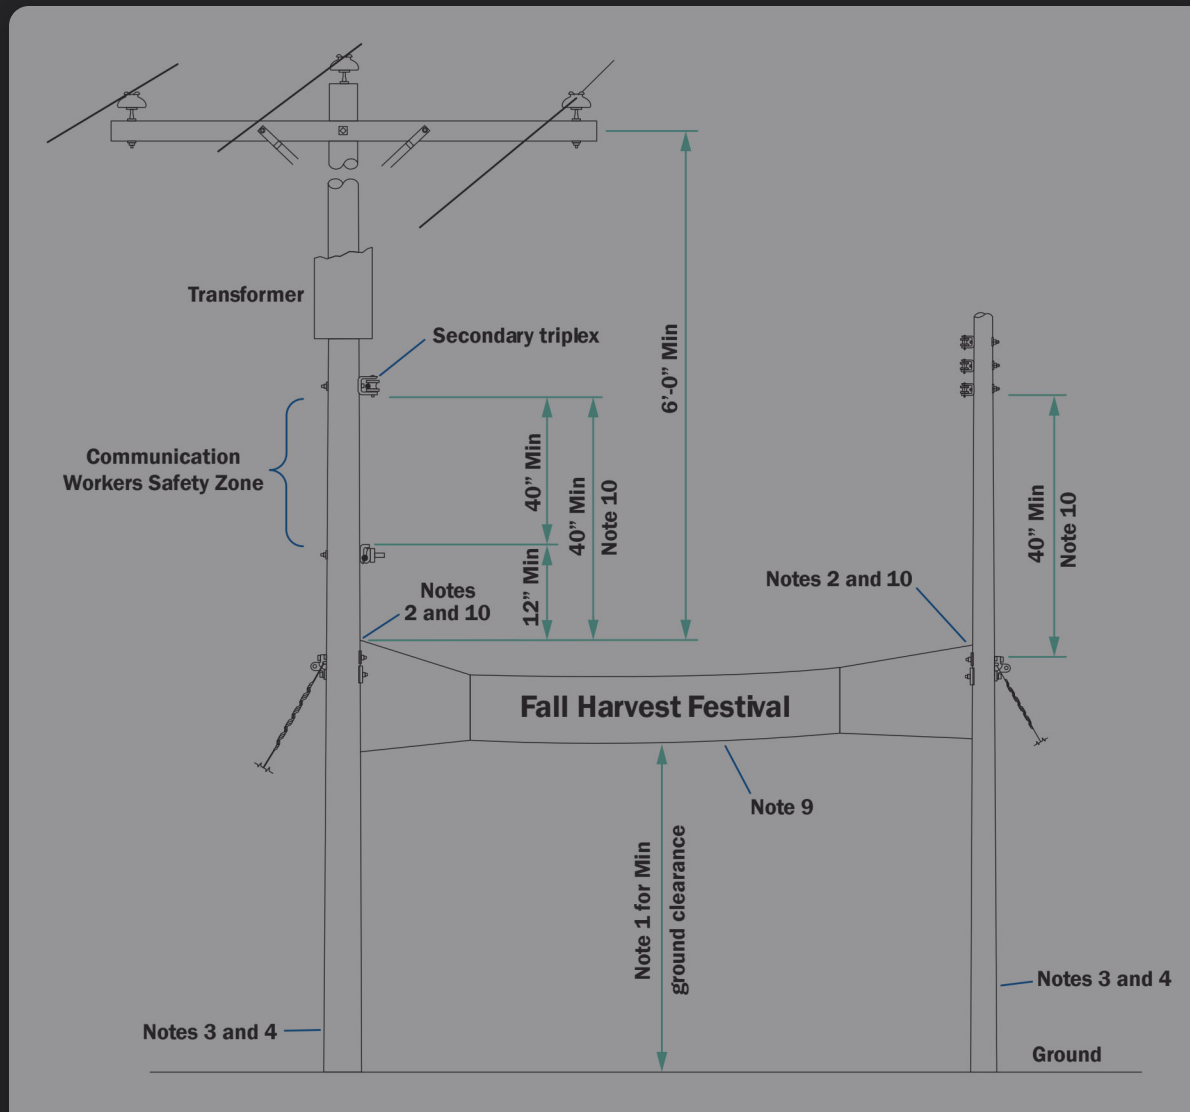

FIGURE 43-15-1 Span Wire Banners Installed on Company Poles
- Span wire banners are large banners strung on a messenger from pole-to-pole or from a pole to another structure, see figure 43-15-1.